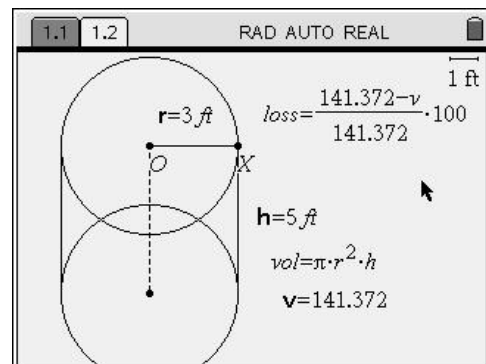

Figure 23
23. Add a text box for computing the percent of hay lost as the radius decreases by pressing MENU 1 5 for Menu, 1:Actions, 5:Text. Move the I-beam to where you would like the formula and press ENTER . Type $\text{loss}=(141.372 - v) \div 141.372 \times 100$ and press ENTER . Press ESC to put the text box tool away. (Figure 23)